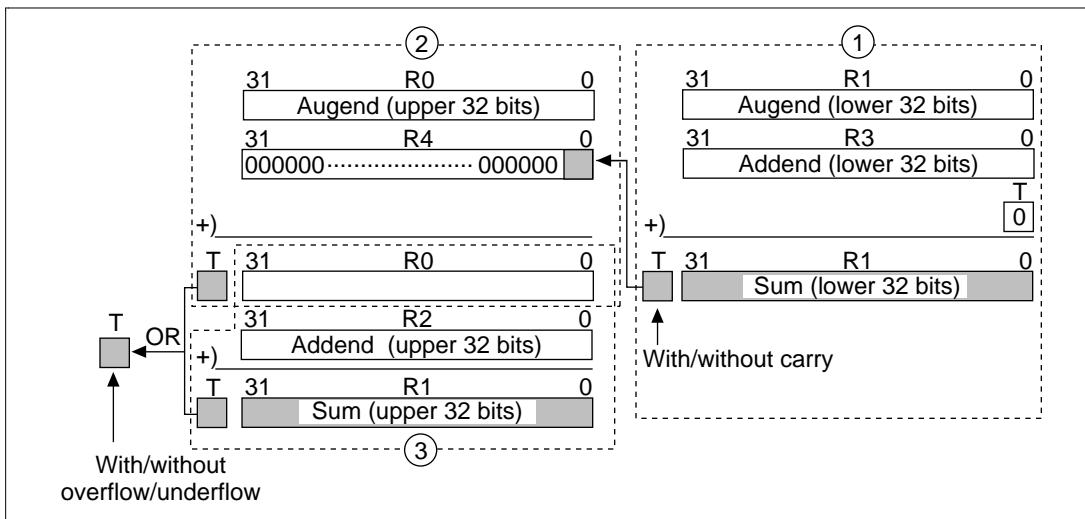

Figure 3.30 Signed Addition (ADDS64)
1. ADDV adds the lower 32 bits of the augend and addend by the add with carry instruction (ADDC). If a carry occurs after addition, it is indicated in the T bit (figure 3.30 (1)).
2. ADDV adds the carry to the upper 32 bits of the augend. Stores the T bit contents of step 1 in R4, and adds it to the upper 32 bits of the augend with the binary addition with overflow check instruction . If a carry occurs, 1 is added to the upper 32 bits of the augend. If there is no carry, 0 is added to the upper 32 bits of the augend. The overflow/underflow is indicated in the T bit after addition (figure 3.30 (2)).
3. ADDV adds the sum of step 2 to the upper 32 bits of the addend by binary addition with overflow check instruction (ADDV). The overflow/underflow after addition is indicated in the T bit (figure 3.30 (3)).